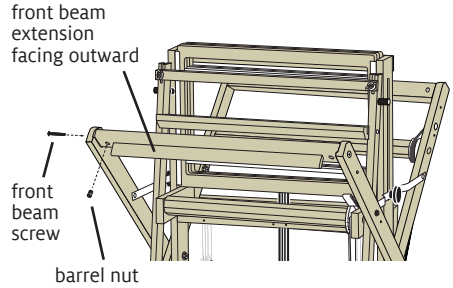

FIGURE 2: REATTACHING THE FRONT BEAM
4. Reattach the front beam: Orient the front beam so that its extension faces outward, as shown in Figure 2 on page 4. Install the front beam in this position with its screws and barrel nuts.